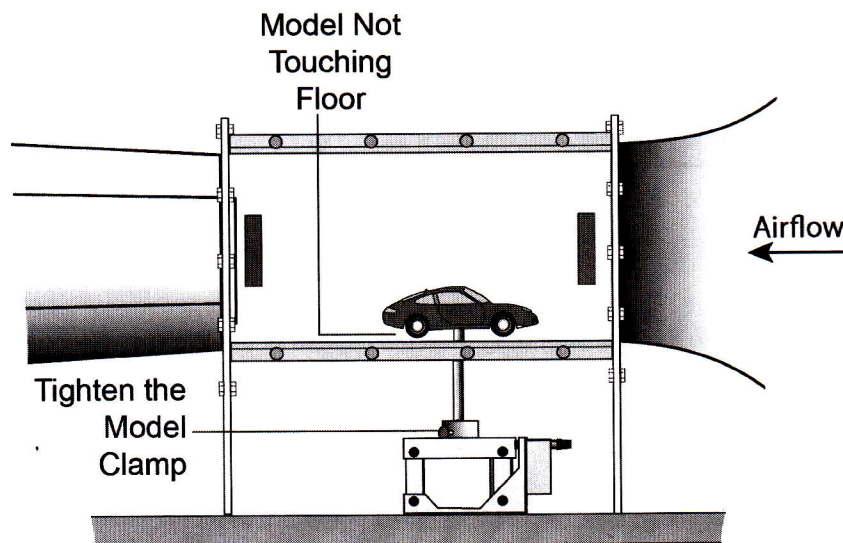

Figure 13 Insert the Model Support Shaft into the Balance Assembly (Model Car Shown - Not Included)
6. From inside the working section, insert the model support shaft through the bottom of the working section and into the Balance Assembly (see Figure 13). The model must face into the airflow (towards the inlet).
7. Adjust the model support shaft so that the model does not rest on the floor of the working section (see Figure 13).